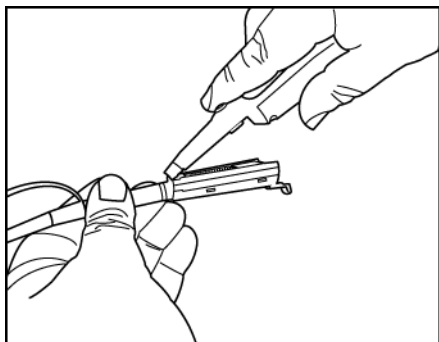

Fig. 10 Insert connector tab into distal end of the handle
- 6 Insert the blue connector tab into the distal end of the handle (Figure 10).